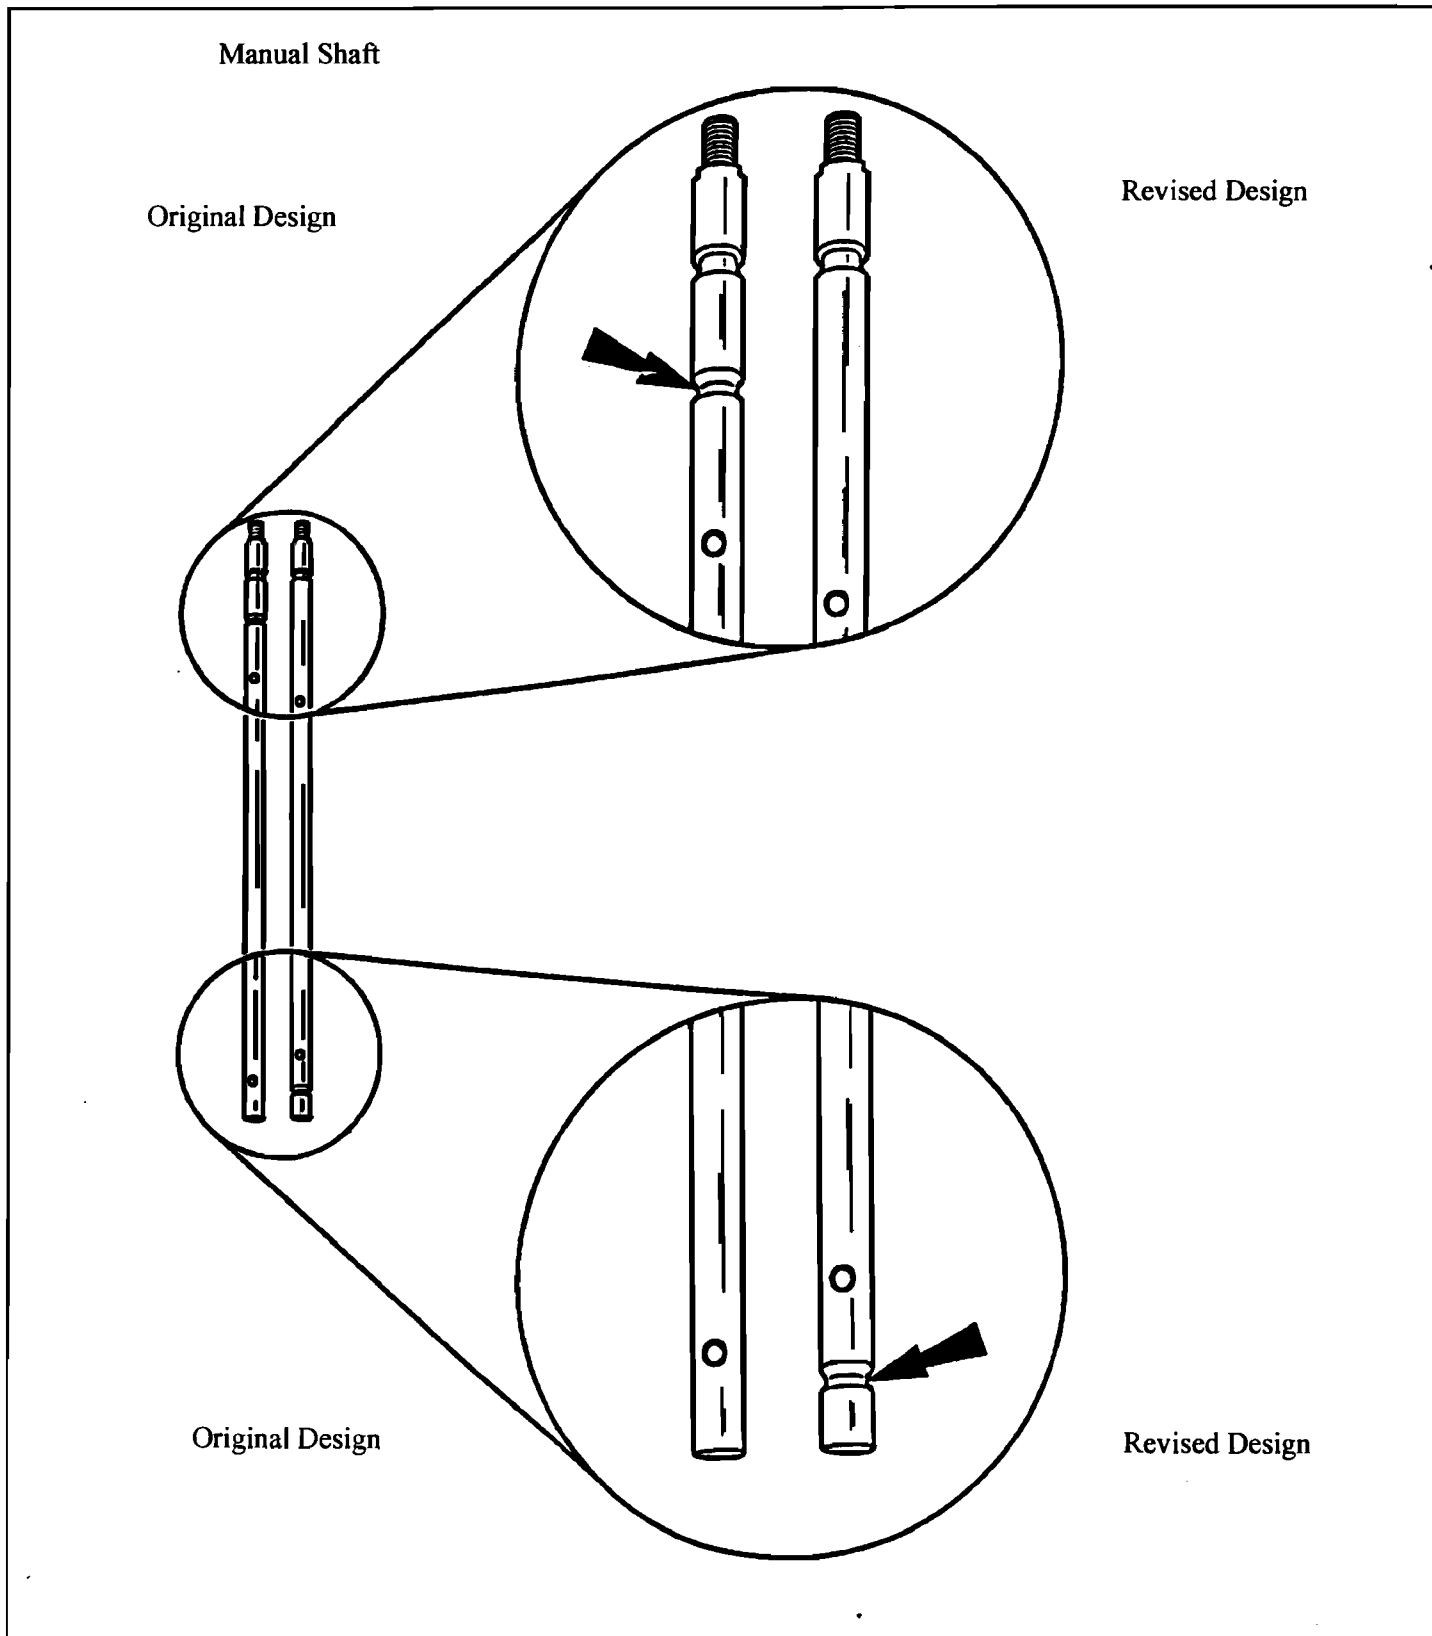

Figure 10
- Figure 10-Manual Control Shaft